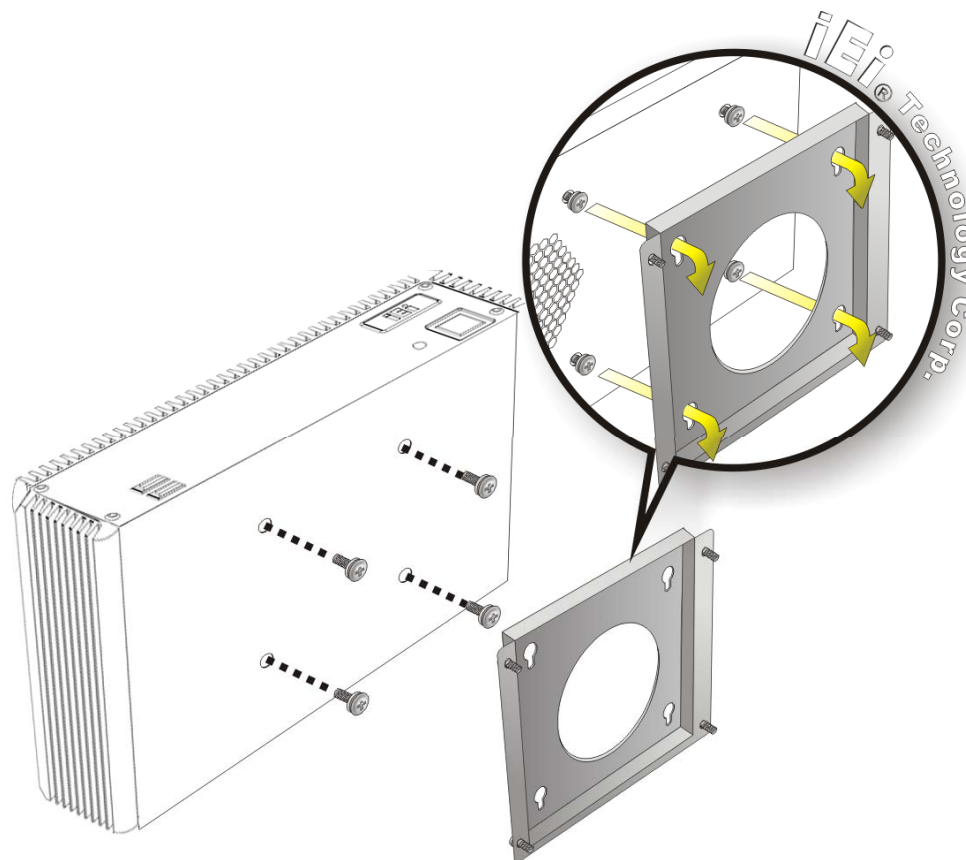

Figure 4-8: Mount the Embedded System
- Step 6:** Insert the four monitor mounting screws provided in the wall mounting kit into the four screw holes on the bottom panel of the system and tighten until the screw shank is secured against the bottom panel (**Figure 4-8**).
- Step 2:** Carefully insert the screws through the holes and gently pull the monitor downwards until the ECW-281B-945GSE rests securely in the slotted holes (**Figure 4-8**). Ensure that all four of the mounting screws fit snugly into their respective slotted holes.